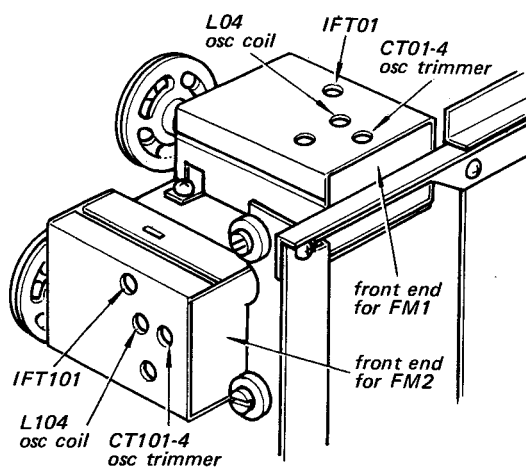

Fig. 3-11 Adjusting parts location
2. IFT 01 and IFT 101 (shown in Fig. 3-11) are to be adjusted for i-f alignment. Adjust IFT 01 (with FM1 band) and IFT 101 (with FM2 band) for maximum meter reading on VTVM with the same setup of FM1/FM2 frequency coverage adjustment.